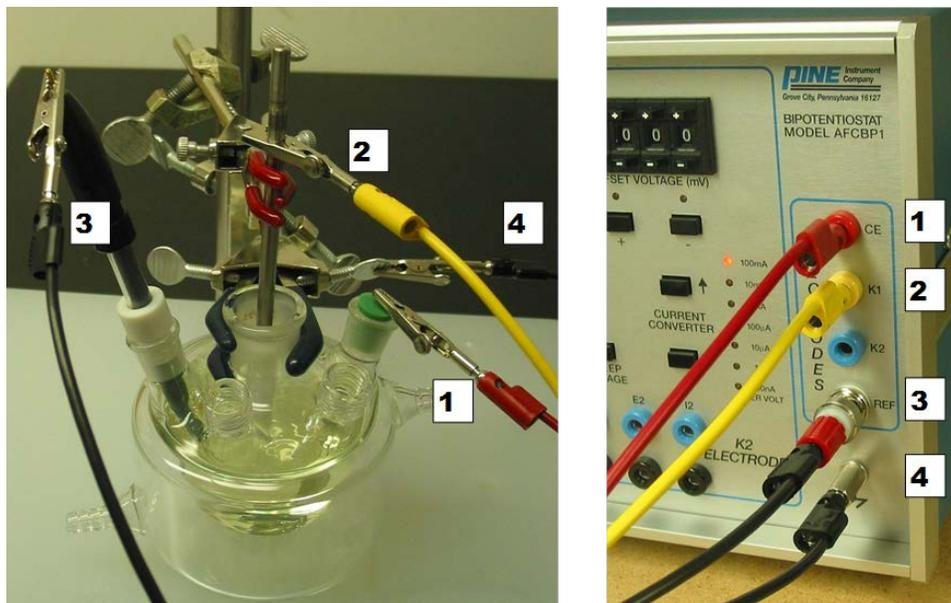

Figure 6: Electrode Setup for Cyclic Voltammetry Diagnostic Testing of the CBP
- Connections between the electrochemical cell and CBP are shown in Figure 6 with **1**) Counter electrode (CE); **2**) Working electrode (K1); **3**) Reference electrode (REF); and **4**) Chassis ground.